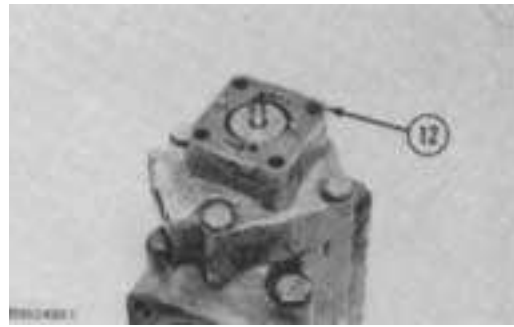

FIGURE 7-13
- Remove the cam ring (12, Figure 7-13).